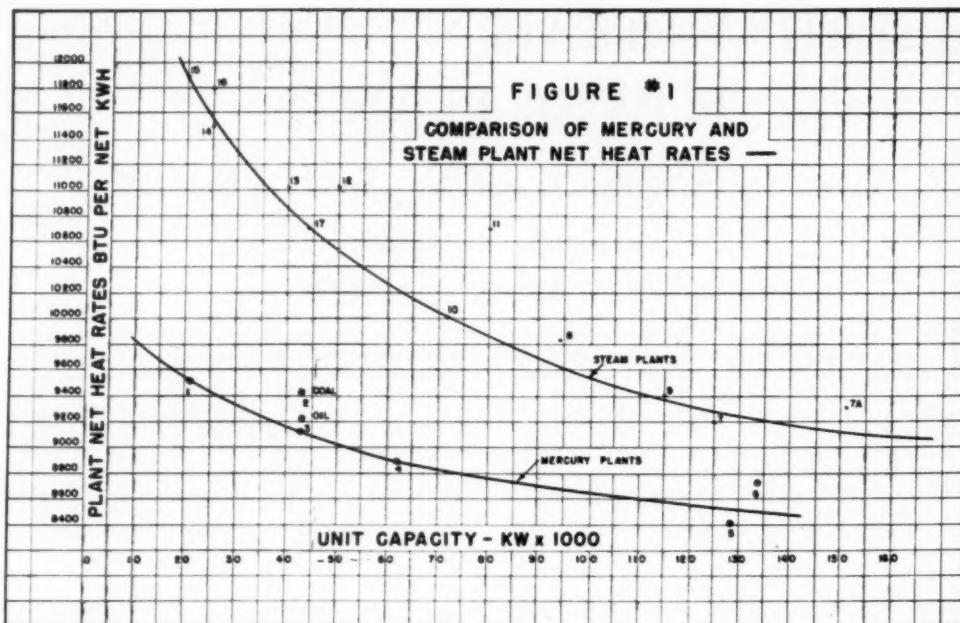

FIG. 1 COMPARISON OF MERCURY AND STEAM-PLANT NET HEAT RATES
A comparison of mercury and steam plant net heat rates is shown in Fig. 1, and it may be noted that the 40,000-kw Schiller Station (1),¹ for example, using moderate pressure and temperature mercury-steam generating equipment, has a plant net heat rate that compares very favorably with the 100,000-kw Sewaren units (2) Fig. 1, items 8 and 9, and the 125,000-kw Philip Sporn No. 1 Unit (3) Fig. 1, items 7 and 7A. When compared with recently installed units of like capacity, the reduction in fuel consumption of the Schiller Station is in the order of 1300 Btu per net kwhr or approximately 12 per cent. However, a 40,000-kw mercury-steam plant, utilizing a single 15,000-kw mercury unit and a 25,000-kw steam turbine designed to operate at 850 psig 900 F, would be expected to show about 15 per cent improvement in fuel rate per kilowatt-hour, Fig. 1, items 3 and 17. Further study of Fig. 1 shows that in every case the mercury-steam power-plant heat rates are materially lower than those of steam plants of comparable size.